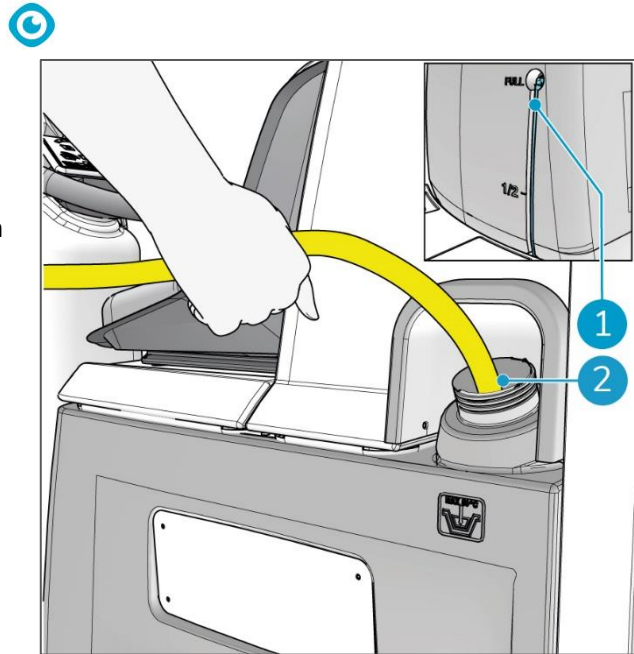

Figure 23
2. Place a water hose in the opening (Figure 23, pos 2).
3. While keeping an eye on the solution level indicator (Figure 23, pos 1), fill the tank with a maximum of 58 L of water.